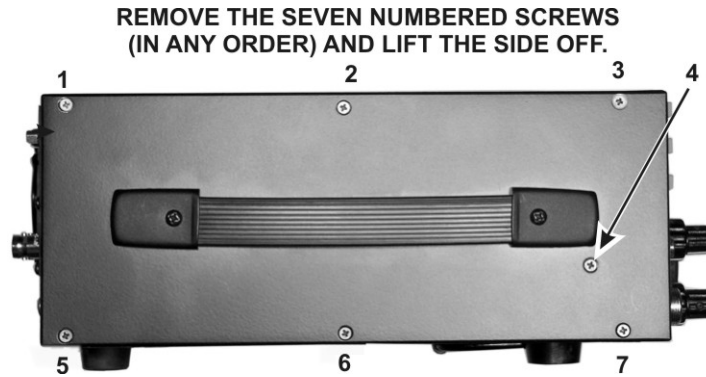

Figure 4. Removing the Left Side Cover.
If you do **not** have the KRX3 subreceiver installed, skip this step. If you **do** have the KRX3 subreceiver installed, stand the K3 on its side feet and remove the left side cover as shown in Figure 4.
- If you removed it earlier, replace the left side panel as shown in Figure 4. Be sure the coaxial cable connected to KXV3 board passes through the notch in the RF board so it is not pinched between the side cover and the board.